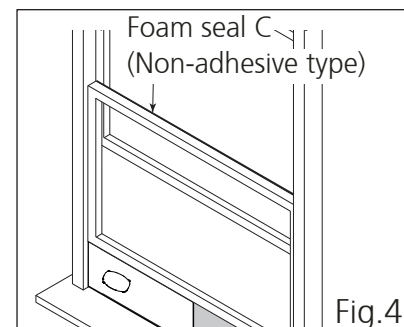

Fig.4
3. Cut the non-adhesive foam seal C strip to match the width of the window. Insert the seal between the glass and the window frame to prevent air and insects from getting into the room.(see Fig.4)